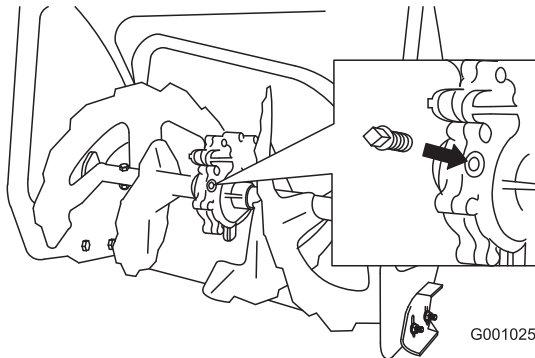

Figure 40
2. Clean the area around the pipe plug (Figure 40).